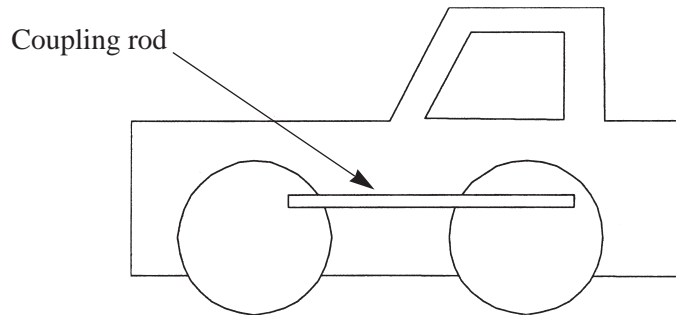

Figure 6
- B4** The drawing **Figure 6** shows a toy train that has been manufactured using a variety of different plastic materials.
(d) On the toy train a coupling rod connects the two wheels. This is shown in **Figures 6 and 7**. Sketch a suitable method of fixing this link to the wheel yet at the same time allowing it free rotation. You may use the given cross-section of the wheel or re-draw it in the space below.